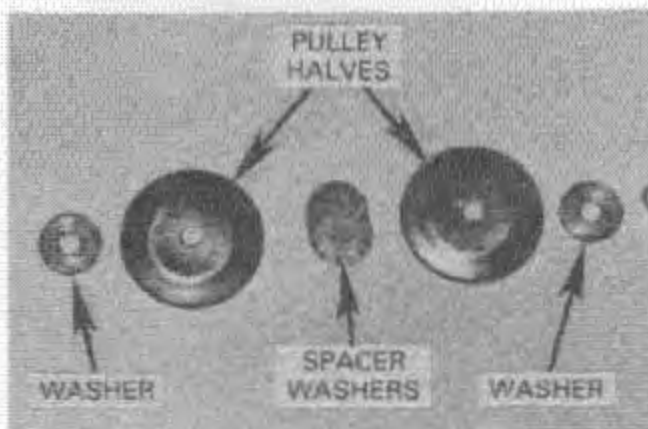

Fig. 20 — Blower Pulley and Shim Arrangement
- b. Install fan and shaft through bearings in housing and install washers and pulley in sequence shown in Fig. 20.